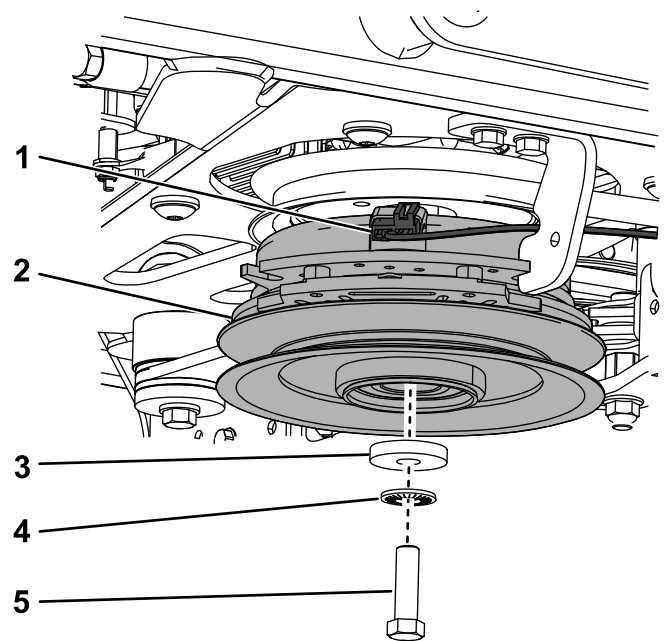

Figure 89
- A. Unplug the wire harness from the clutch (Figure 89).
- B. Remove the bolt, washer, spring washer, and clutch (Figure 89).